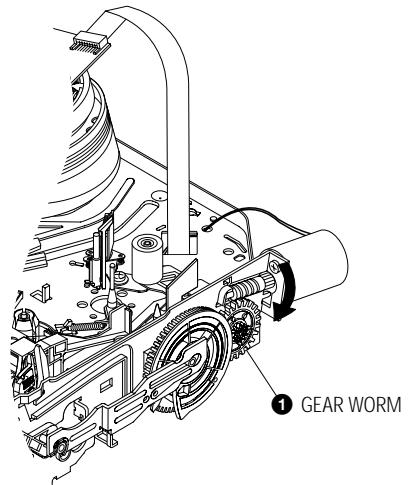

Fig. 2-42
3) Rotate Gear Worm ① clockwise using screw driver again up to the state of eject mode and then pick out the tape.(Refer to Fig.2-42)